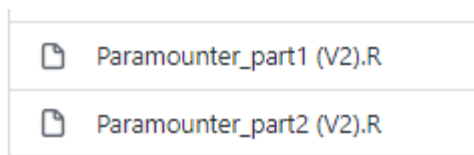

Figure 2. Paramounter part 1 and 2 on GitHub.
- 2) Download “Paramounter_part1 (V2).R” and “Paramounter_part2 (V2).R” from GitHub (<https://github.com/HuanLab/Paramounter>) (**Figure 2**).